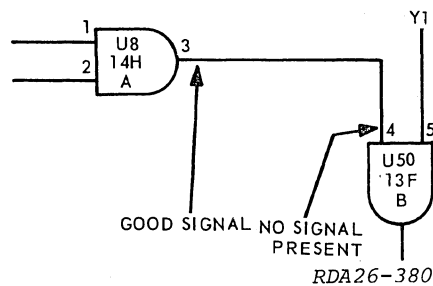

Figure 3-3
We have confined the problem to a small area of logic. Now we can trace signals with the oscilloscope. Place the oscilloscope on internal trigger. Set the computer to do the acquisition phase of the ADD instruction. Set the distributor to a count of eight (8) hexadecimal and depress the REPEAT switch. Place a probe on pin 3 of AND-gate 14HA (coordinate E7). (See figure 3-3.) Watch the level as we step through the DPA pulses. At DPA8 the enable signal is generated correctly. Move down stream in the data flow and check the enable signal at pin 4 of AND-gate 13FB (coordinate D2) (see figure 3-3). Put the probe on pin 4 of the AND-gate and set the computer to do the ADD acquisition phase. Watch the CRT for the enable level as we step through the DPA pulses. Here the signal is not present.